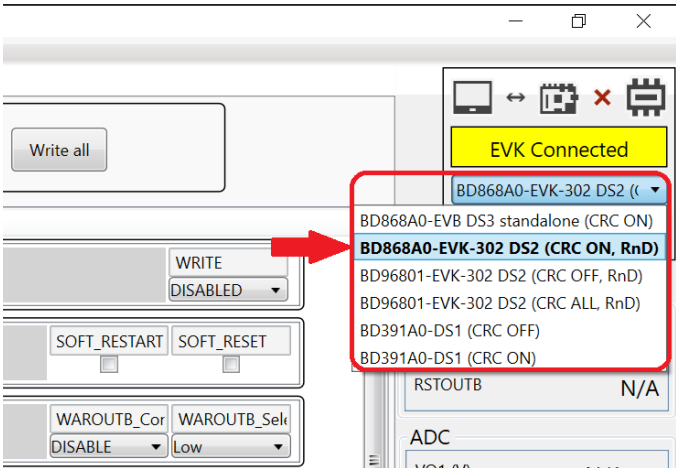

Figure 3: Choose appropriate EVK
- (1) The blue LED on CY8CKIT-059, the green USB_ON_LED and the COM_ON_LED on the *PMIC-MB-EVK* board light up, indicating that the system is operational.
- (2) Select the board name “*BD868x0-EVK-302 DS2 (CRC ON, RnD)*” in the drop-down menu on the top right side of the GUI. See Figure 3.